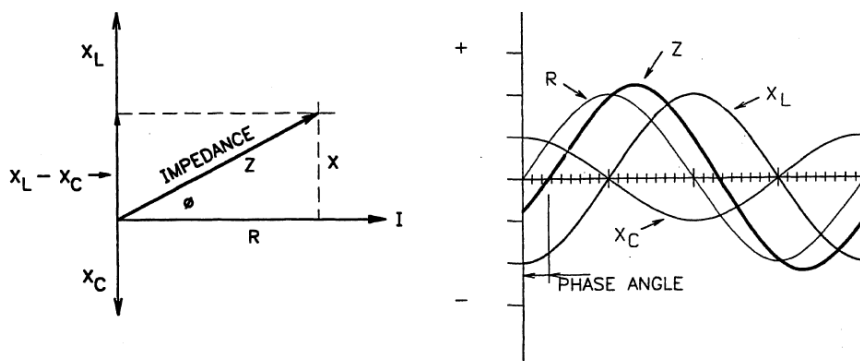

Figure 10 - Relationships in an RLC series circuit
37. The relationship between these calculated values can be shown on the phasor diagram (using the current as the reference phasor), as shown in Figure 10.